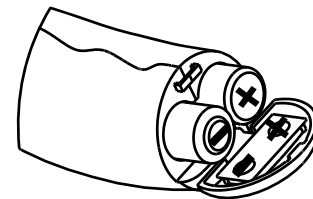

Figure 5.1
2. Put in 2 AAA alkaline batteries and close up battery lid. After new batteries are installed, the color of the backlight on the LCD screen turns green, then orange, then red, with each color flashing one time with a beep heard. If no beep is heard, check if the positive and negative pole is correct. See Figure 5.1.